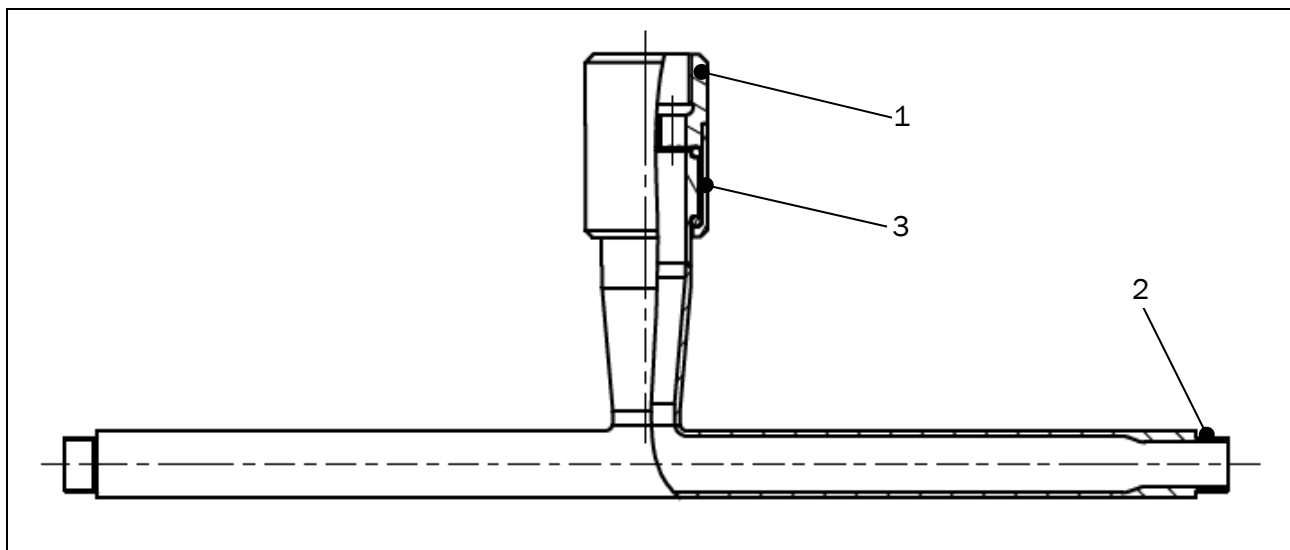

Figure 5.2-1: Interfaces
- Do NOT place the strap wrench/belt wrench in the bearing area (see Figure 5.2-1).